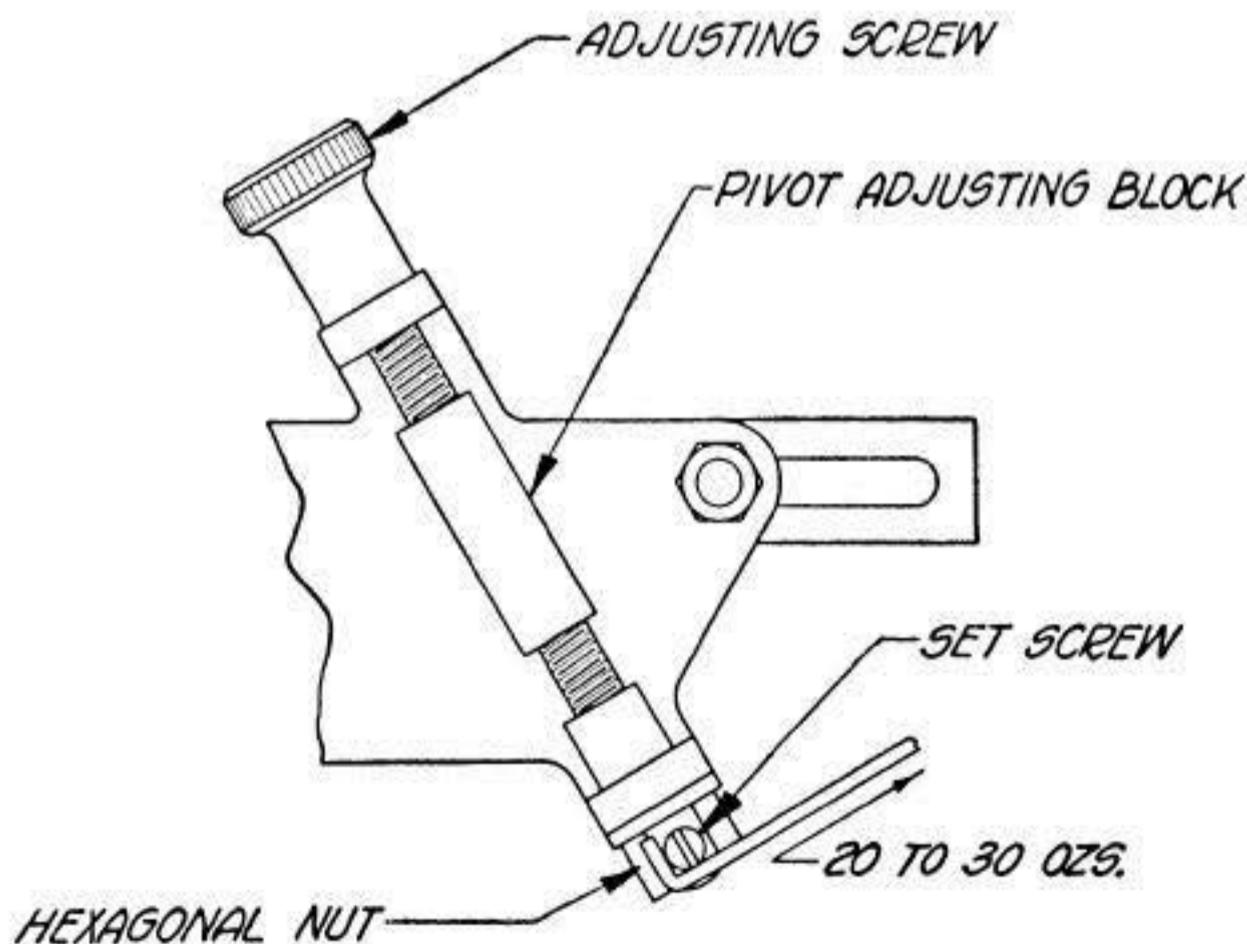

Fig. 29
(a) With the pivot-adjusting blocks near the centers of their screws, hook a scale over the hexagonal nut setscrew and pull at right angles to the setscrew. It should require a pull of Min 20 oz, Max 30 oz, as indicated in Fig. 29, to start the adjusting screw turning.
(1) To adjust the friction of each pivot-adjusting-block screw, loosen the hexagonal nut setscrew and position the nut. Tighten the setscrew. **Fig. 29**